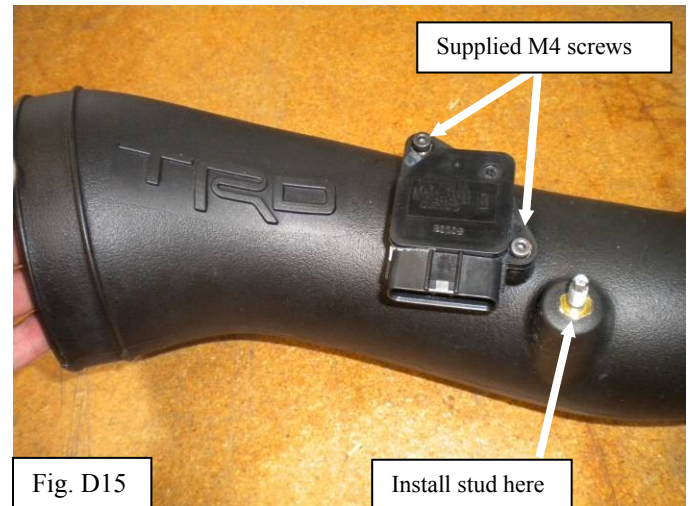

Fig. D15
14. Install the factory MAF sensor into the TRD intake pipe using a 3mm allen wrench and the supplied M4 screws. Also install the M6 stud removed in step D13 using the E6 socket. (Fig. D15)